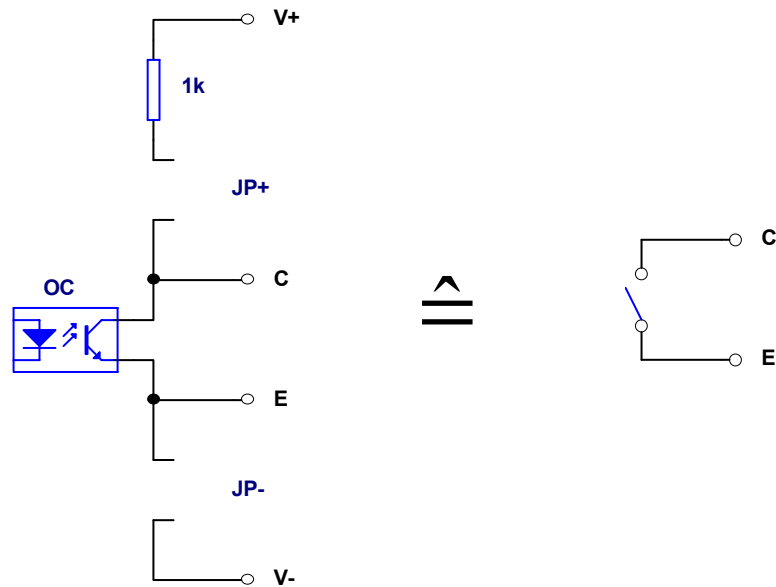

Fig. 2: Both jumpers removed → Simple switch between Terminals C and E
When, according to Fig. 2, none of both jumpers of a channel is installed, collector and emitter of the output transistor are only accessible via terminals C and E. The optocoupler then acts as a simple switch, where of course polarity must be obeyed: current can only flow into Terminal C and out of Terminal E.
3.2.1 No Jumpers Installed (see Fig. 2)